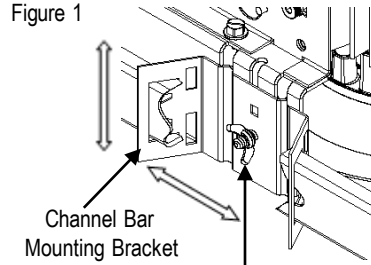
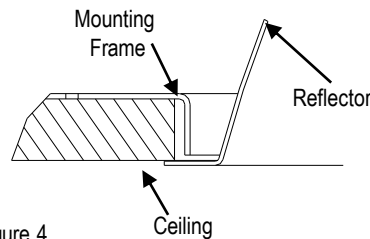

Figure 2
Figure 4
3. Once mounting frame has been secured in structure, loosen wing nut (shown in Figure 2) to adjust the mounting frame vertically to align bottom edge of fixture to either flush or slightly above (1/8" max) the ceiling line as shown in Figure 4. Secure mounting frame into position by tightening wing nut.
3. If non-flexible wiring method is used, follow procedure for flexible wiring method. Then lower mounting frame equal to the thickness of the finished ceiling or slightly above as shown in Figure 4.